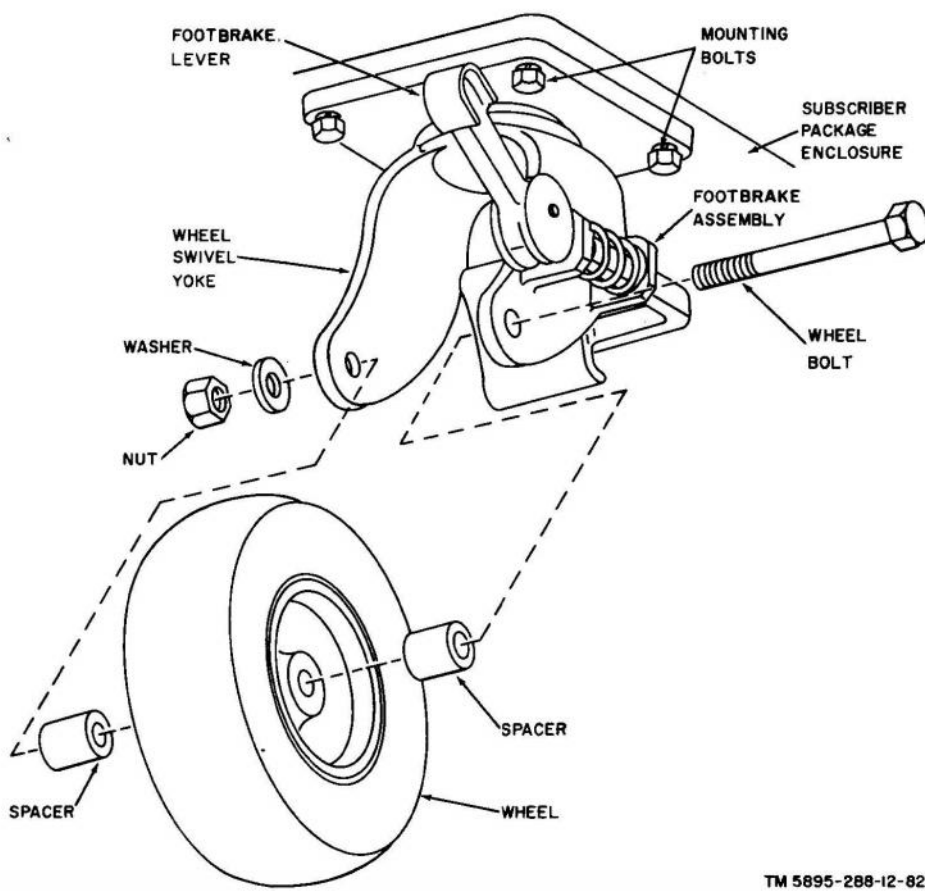

Figure 70. Subscriber package caster assembly, exploded view.
- (2) Release the caster assemblies by removing the retracting pins, and lower the casters to the ground.
- (3) Remove the chain-leashed swivel-handle mounting studs and raise the longitudinal tubes from the radio terminal shelter.
- (4) Replace all 12 retracting pins so that the dolly assembly is supported by its caster assemblies. the radio terminal shelter site.
- (5) If only the leveling jacks are to be removed from the dolly assembly, make sure that the radio terminal shelter is resting on either the casters or on its skids; then fully retract the leveling jacks and loosen the jack-retainer screws. Slide the leveling jacks from the brackets.
o. Replacing Wheel of Subscriber Package Caster Assembly (fig. 70). To replace the wheel of a subscriber package caster assembly, proceed as follows:
- (1) Apply the footbrake on each caster assembly.
- (2) Lift the side of the subscriber package on which the wheel is to be replaced and support the subscriber package.
- (3) Release the footbrake of the wheel to be replaced, by lifting the footbrake lever.
- (4) Loosen the wheel bolt that holds the wheel to the wheel swivel yoke.
- (5) Remove the nut and the washer from the wheel bolt.
- (6) Carefully slide the wheel bolt from the wheel and wheel swivel yoke; remove the spacers and the wheel.
- (7) Slide the wheel bolt back into the wheel swivel yoke just enough to